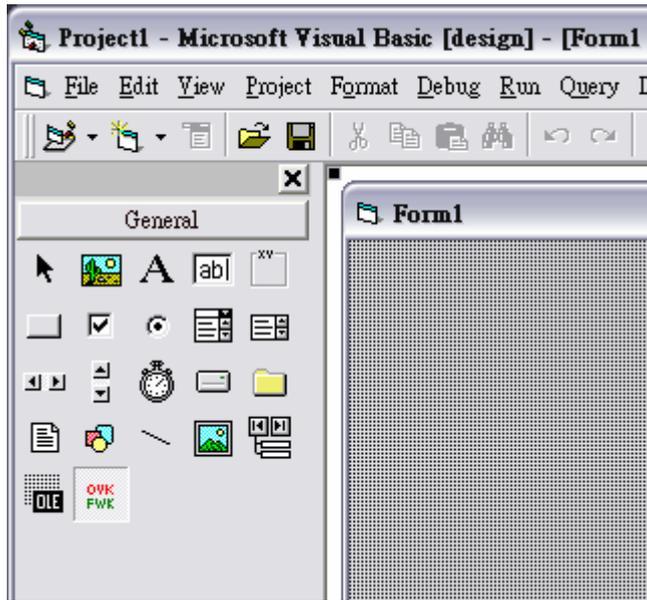

Figure 4.
4. Pick the component from the palette as shown in Figure 4.